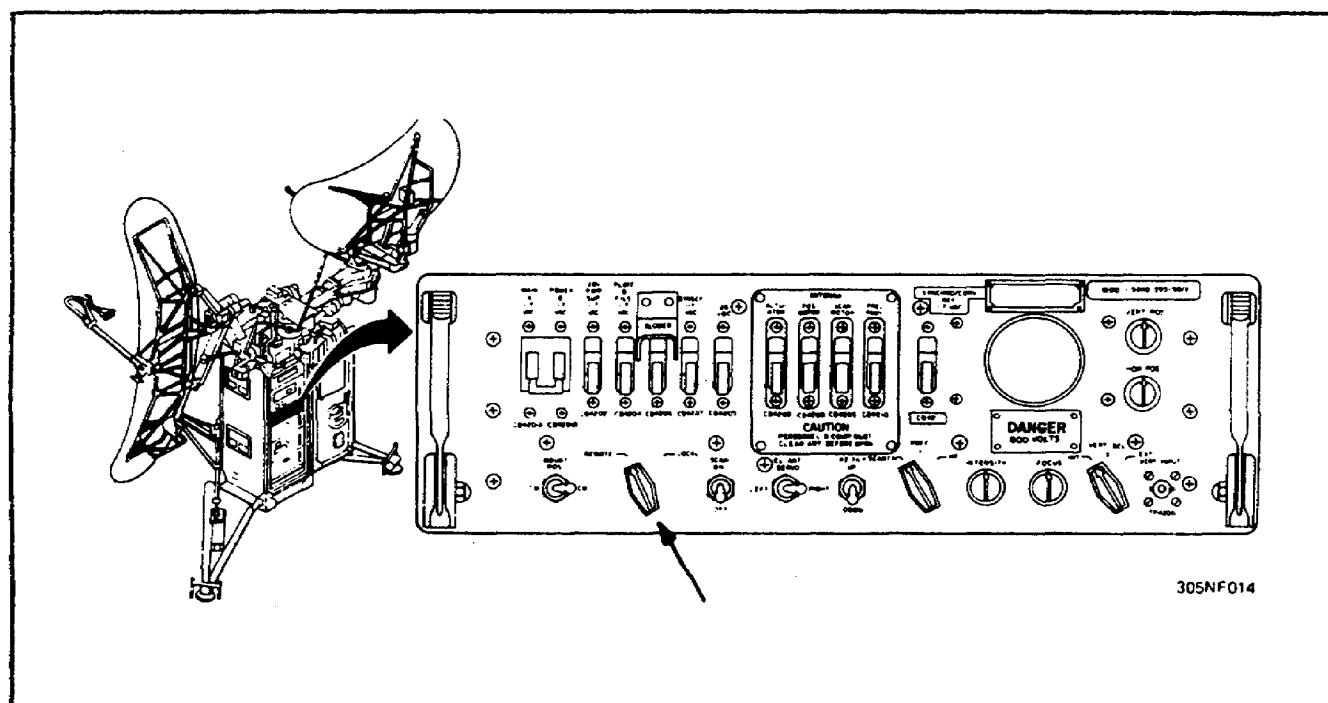

Figure 31. P/O control monitor C-2124A/FPN-33.
h. Place the LOCAL-REMOTE switch S4203 on control monitor C-2124A/FPN-33 to REMOTE. (See Figure 31.)